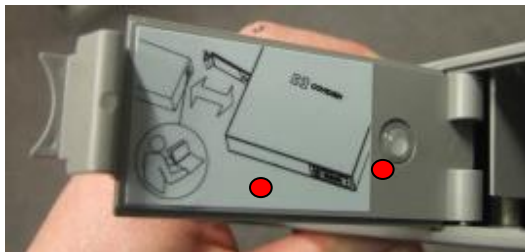

Fig 2
- Check to ensure adhesive battery stop is applied in correct location on door as per fig 2.